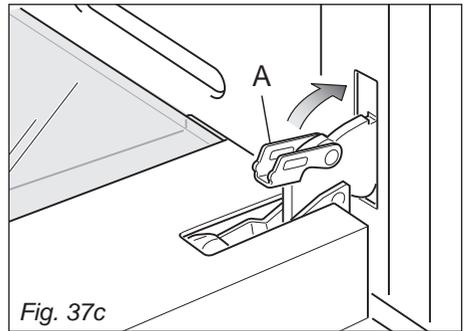

Fig. 37c
4. Fully close the levers "A" on the left and right hinges, as shown in the figure 37c.